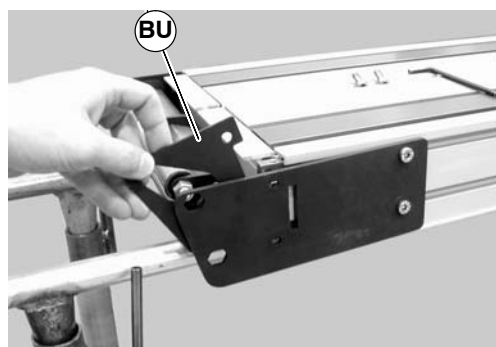

Figure 55
3. Remove the inner spacer (BU of Figure 55).